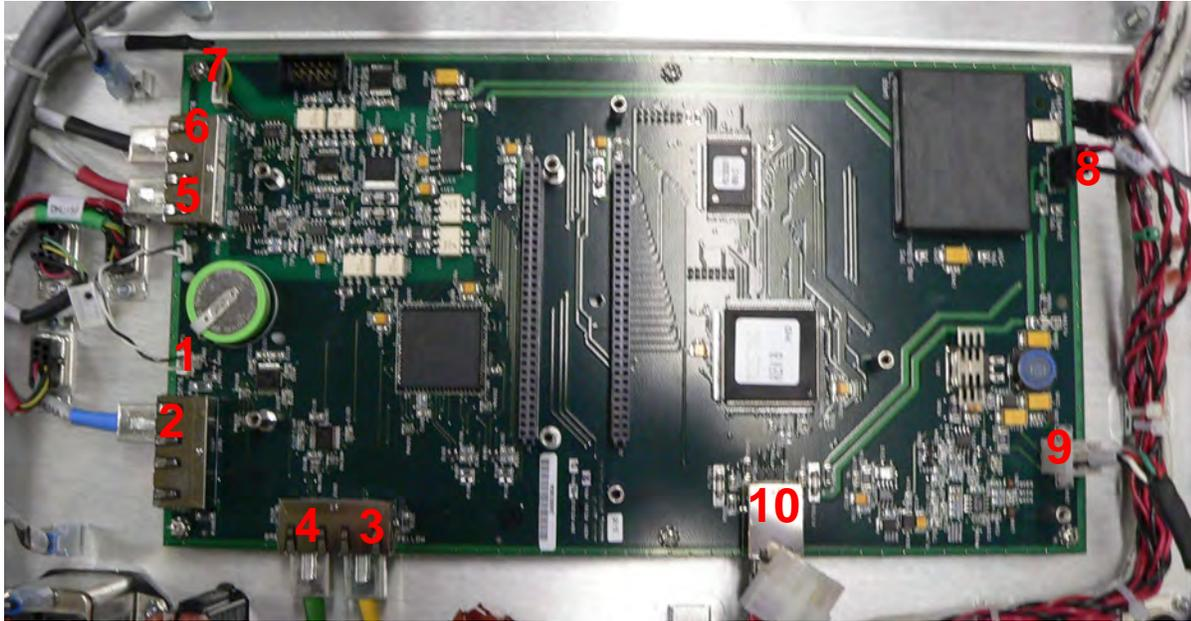

Figure B-36 Mother Board Wiring
7. Disconnect the wiring as follows (Figure B-36):
9. Remove the board and mount the new board with the six (6) Philips screws.
10. Reconnect the wiring as in (Figure B-36 on page B-26).